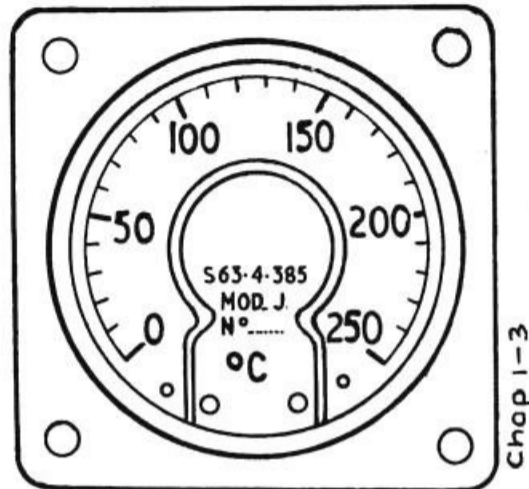

Fig. 1. Indicator, Type S63.4.385
1. This indicator (Ref. No. 6A/4703) (*fig. 1*) is calibrated in degrees C from 0 to 250; the indicator is controlled by variation of temperature in a resistance bulb which obeys a platinum law.